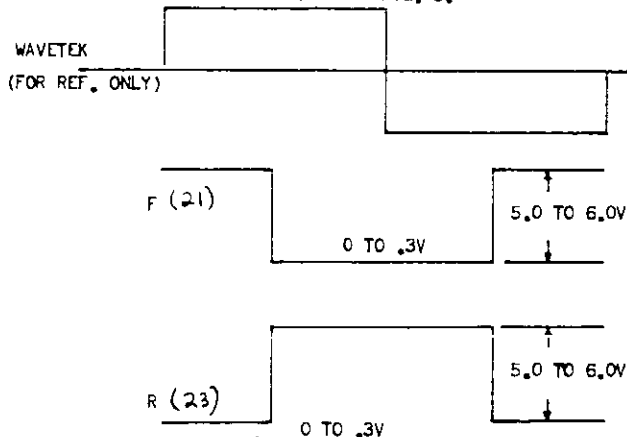

FIGURE 5
CHECK VOLTAGES PER FIG. 5.
J. CLOSE SW7. REDUCE AC VOLTAGE UNTIL F AND R (FIG. 5) STOP SWITCHING. A AC VOLTS TO BE ABOVE 45V. OPEN SW7. RETURN AC TO 115V \pm 3V.
B. SCOPE PICTURE IS LIKE FIG. 5.